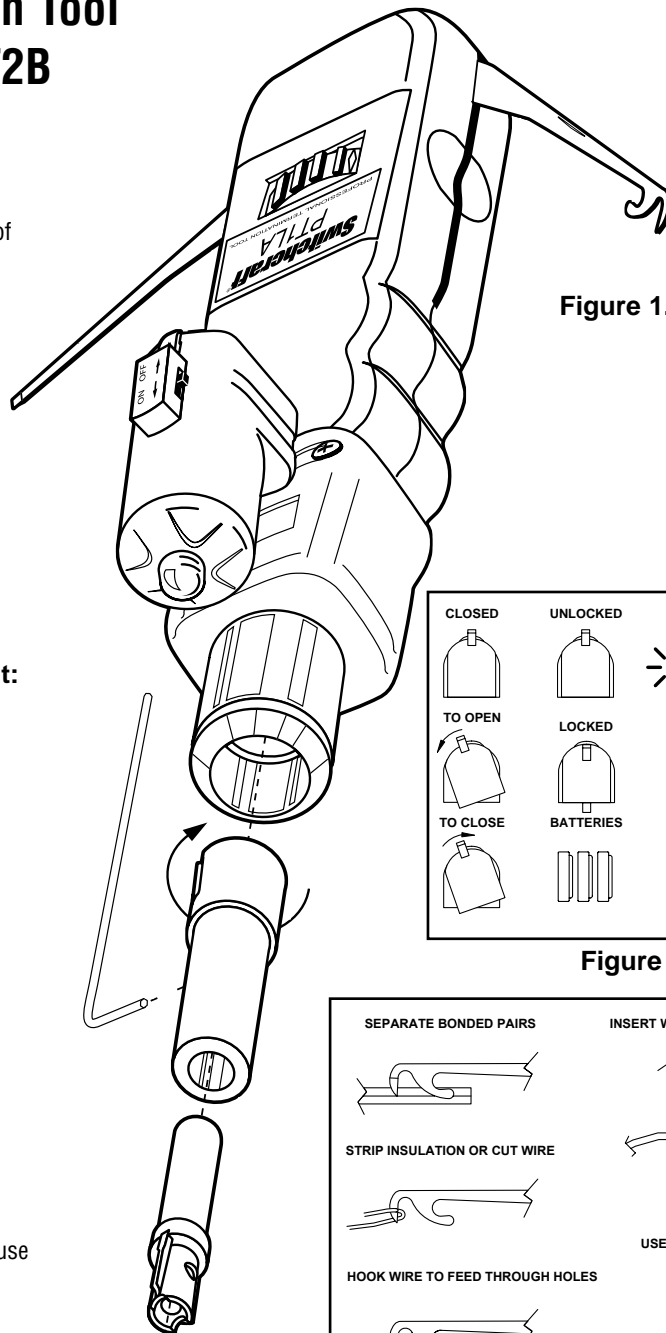
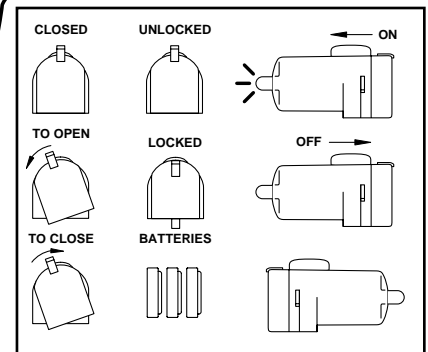

Figure 1.
Figure 2
1. Insert the assembled adapter and blade tool tip into the top of the tool as seen in Figure 1.
1. Refer to Figure 1 and Figure 2.
2. Ensure the lock clip on the light module is in the up position as shown in Figure 2 "UNLOCKED" drawing.
3. Slide the light onto the mounting clip located on the bottom side of the tool as shown in Figure 1.
4. Press down on the lock clip to lock the light onto the mount as shown in Figure 2 "LOCKED" drawing.
1. Refer to Figure 2.
4. Install the batteries in the module in the direction shown in Figure 2. (Batteries used: Three LR44)